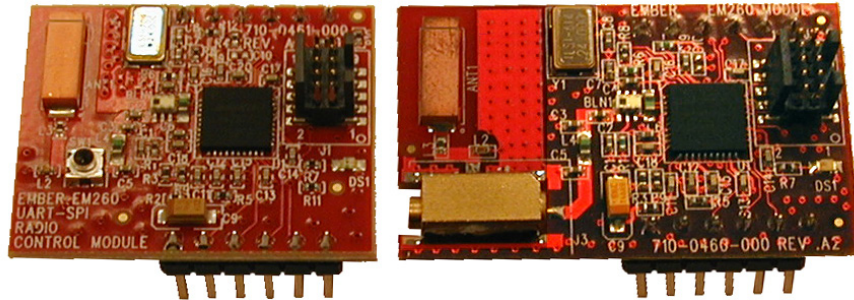

Figure 1. Hardware comparison
**Warning:** Please clearly identify the EM260 hardware version you are using. The EM260 SPI/UART RCM (130-0461-000) mates with the EM260 SPI/UART Breakout Board (130-0471-000), whereas the EM260 SPI-only RCM (130-0460-000) mates with the EM260 SPI-only Breakout Board (130-0470-000). These hardware versions are not compatible with each other. Please see Figure 1 to identify which hardware version you are using. If you are using the SPI-only version, please consult technical specification 2005 instead of this document.